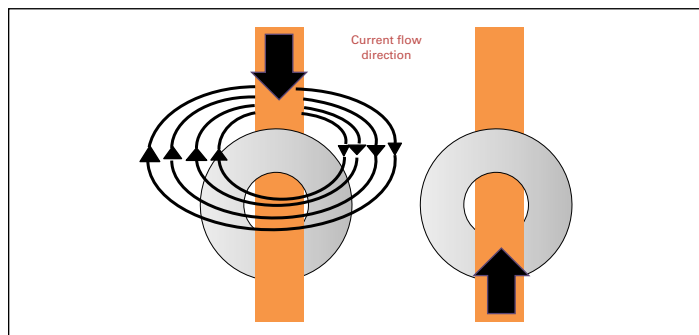
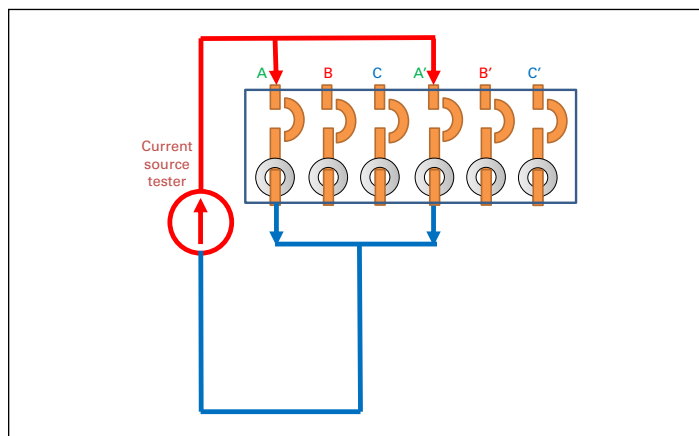
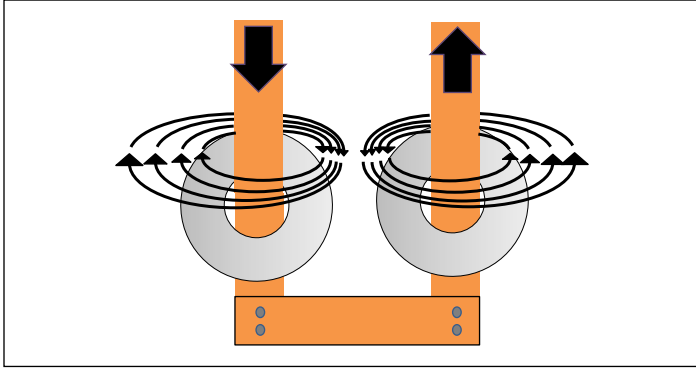

Figure 4. Single-phase current field effect
Figure 5. Double-wide single-phase test
Figure 6. Looping current between phase
8. Eaton states levels and tolerances on the time current curve (TCC) for short-circuit protection that are based on two- or three-phase testing results. The circuit breakers are subjected to tests using full voltage and current to achieve the stated times and levels on the TCC, which power system engineers can use for their coordination studies. Testing with one phase at these high current levels, with low voltage, can lead to different results. Single-phase testing at these high currents causes unbalanced magnetic fields inside the circuit breaker versus testing with multiple phases. These unbalanced magnetic fields can cause the trip unit to measure the fault current lower than the actual current and therefore require a higher current to go over the pickup level set on the trip unit. A way to counteract this effect is to loop the current back up the adjacent phase as shown in **Figure 6**.
When testing a double-wide circuit breaker with a single-phase current source, the field of the current can “bleed” into the adjacent phases, causing a reduction in the value of the current sensed as shown in **Figure 4**. The field loss can be compounded when testing double-wide circuit breakers because of the two separate phase connections that need to be made as shown in **Figure 5**. A way to counteract the effect of the loss of field is to loop the current back up the adjacent phase as shown in **Figure 6**.